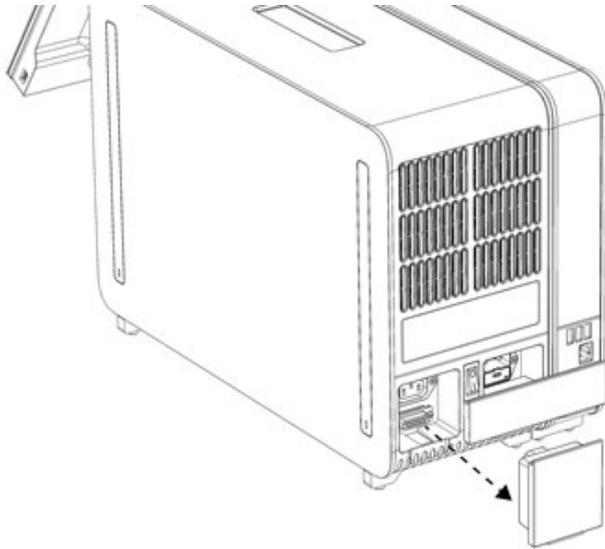

Figure 12. Removing the Termination Bridge.
- 1d. Remove the Termination Bridge from the back of the Analytical Module (Figure 12).